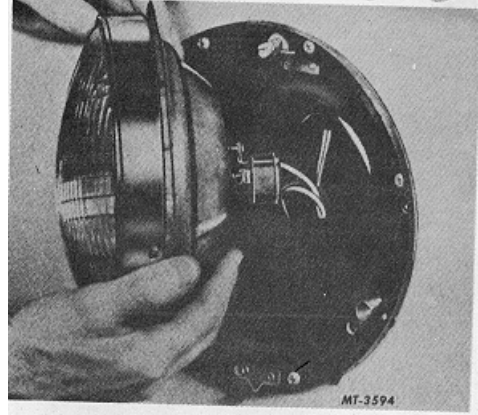

Fig. 3
4. Remove the seal beam unit from the headlight, Fig. 3.